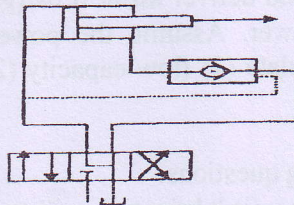

Fig. 2 Que. 1(c) OR
- (c) Modify circuit shown in fig. 2, To start the return stroke of cylinder after pressure development has occurred in rod side of cylinder.